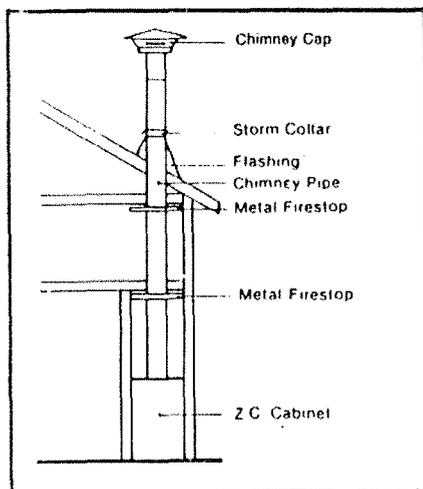
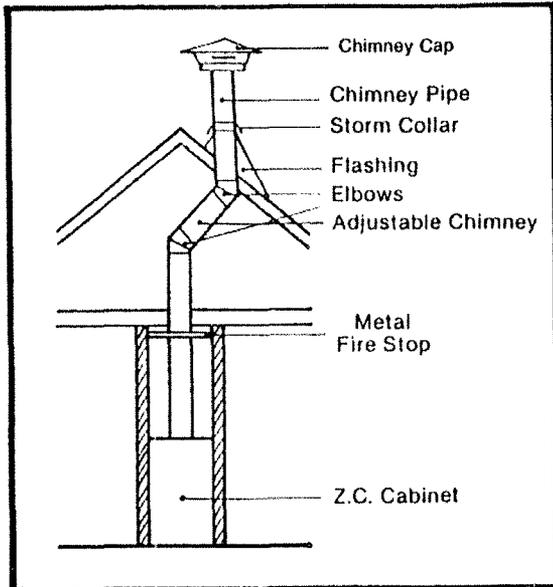

FIGURE 1 Through Ceiling & Normal Pitch Roof
FIGURE 3 OFFSET TO CLEAR OBSTRUCTION
- a. Straight up through ceiling: (See Figures 1 and 2). This is a simple installation normally used when installing a BUCKMATE inside an existing room, and in some cases, in new construction. Refer to Figure 3 if an offset to clear an obstruction is needed.
Except as noted, the BUCKMATE can be installed almost anywhere you desire. There are, however, a few clearance and framing restrictions that must be followed. See figure 1 and 2 to make sure that these clearance restrictions are met. It is much wiser to place your BUCKMATE correctly at the start of the installation than to be forced to relocate it after much of the work is done.
- Lay out the location on the floor and construct base (see Figure 1).
Base for BUCKMATE must be level with or slightly higher than finished hearth height - dimension (A) Figure 1. Front of BUCKMATE cabinet must be recessed 2 1/2" from finished wall.
FIGURE 1-B: Safety shields for brick or rock hearth (Note: Cut vertical shield to fit installation height as needed. Use 26 Ga. Minimum metal being sure to cover any combustibles on the base.)
2. Set BUCKMATE unit in place and attach safety shield to unit as shown in Figure 1-A and 1-B. You must place a non-combustible material 3/8" thick millboard or equivalent .084K factor or 2" of masonry (brick or rock) over this area as a minimum.
2. Set BUCKMATE unit in place and attach safety shield to unit as shown in Figure 1-A and 1-B. You must place a non-combustible material 3/4" thick millboard or equivalent K Factor = .084/BTU/F² H⁰ F inches minimum. Note: 3/8" thick millboard may be used when installing the ZC-3-01 and 27000-B.